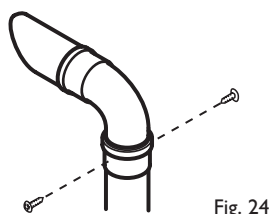

Fig. 24
14. Fit the  $93^\circ$  elbow/plume outlet and secure with the two remaining screws supplied. Ensure the plume outlet is at least  $45^\circ$  to the wall and that the 'peak' is uppermost (Fig. 24).